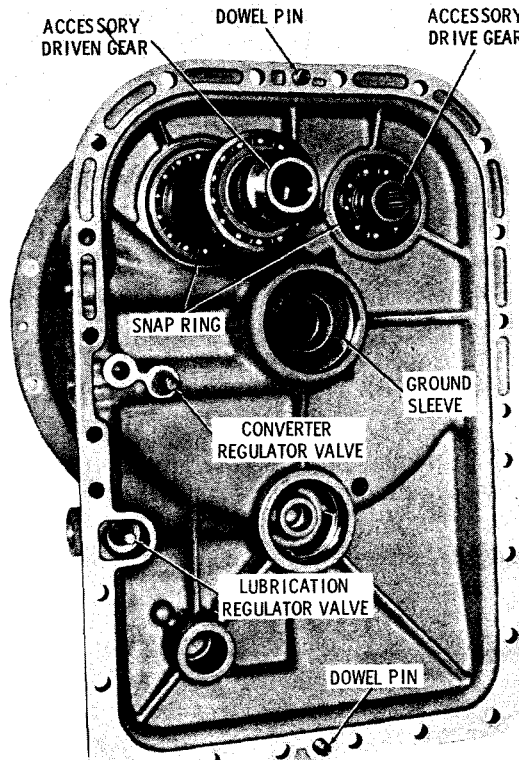

Fig. 6-6. Torque converter housing—rear view S2567
(6) At the rear of the converter housing, remove the snapping from accessory driven gear bearing (fig. 6-6). Tap the accessory driven gear forward and remove it and the attached parts from the housing.
(7) Press bearing 12 (B, foldout 3) or inner race of bearing 45 from accessory driven gear 2. Also remove snapping 11 and bearing 10.
(8) On transmissions equipped with an accessory drive gear, remove the snapping from the accessory drive gear bearing (fig. 6-6). Tap the accessory drive gear forward and remove it and the attached parts from the housing.
(9) Remove snapping 7 (B, foldout 3) and bearing 6 from accessory drive gear 1.
(10) If replacement of the ground sleeve is necessary, remove the four attaching bolts and press the sleeve from the converter housing (fig. 6-6). Use care during this operation to prevent damage to the protruding converter pressure regulator valve or lubrication bypass tube 30 (B, foldout 3), if present.
(11) If the converter pressure regulator valve components 21, 22, and 23 (B, foldout 3) require replacement, remove them by twisting pin 21 from the converter housing.
(12) If the lubrication regulator valve components 18, 19, and 20 require replacement, remove them by twisting pin 18 from the converter housing.
(13) If the transmission is equipped with an internal thermostat, remove lubrication bypass tube 30 and thermostat assembly 31. Remove sealring 32 from the thermostat assembly.
(14) Do not remove plugs 37 or 39 unless necessary for cleaning or replacement. Do not remove dowel pins 41 unless necessary for replacement.